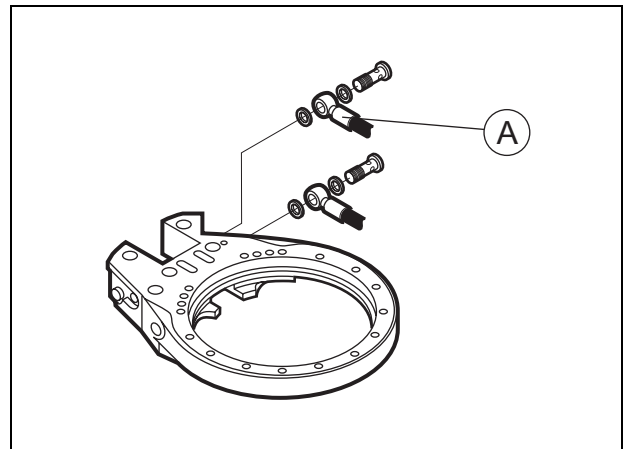

Fig. 44 Hydraulic hose - chain tensioning
1. If necessary, remove the hydraulic hose for the tensioner (A) and plug all connections. See Fig. 44.